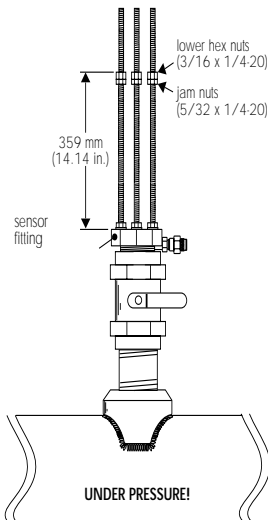

Fig. 9
B. Thread one jam nut and lower hex nut onto each threaded rod so that the top surface of each nut is 359 mm (14.14 in.) from the top surface of the sensor fitting. Secure each hex nut with a jam nut. (Fig. 9)